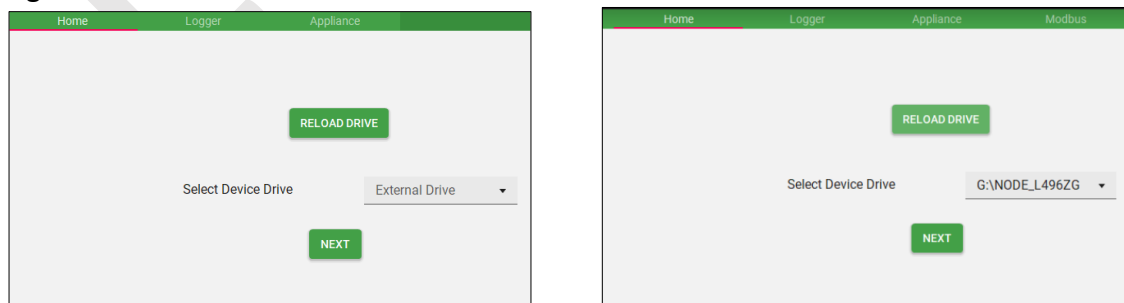

Figure 11 Connect the Data logger with Configuration Application
- Home page will show the option to select the USB drive of the Data logger as shown in figure 11. Click on “Reload Drive” to fetch all the external drives connected to USB ports of the Computer into dropdown for selecting the device drive.